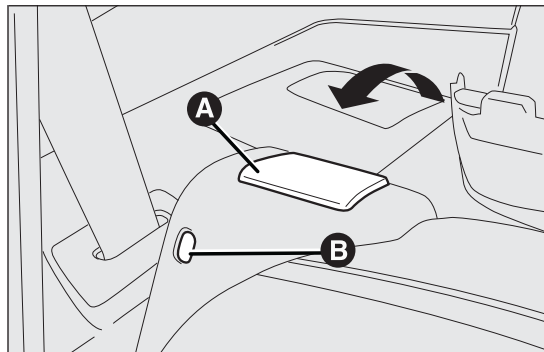

fig. 73
- ☐ *for versions with split rear seat:* lift backrest retainer lever A fig. 73 and fold the backrest forwards to obtain a flat loading area. When you lift the lever, you will see a red band B fig. 73.